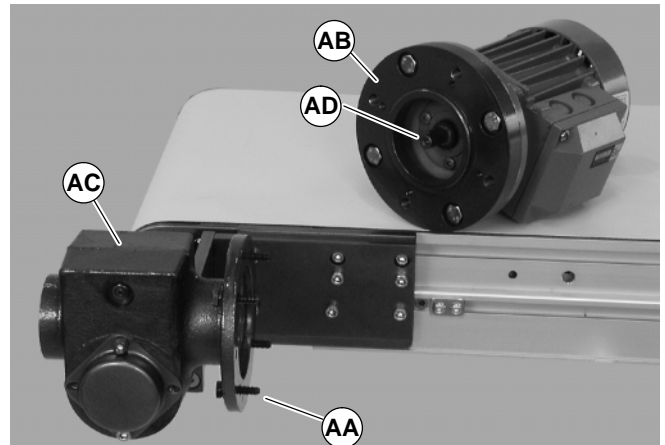

Figure 17
4. Remove four (4) screws (AA of Figure 17). Detach motor (AB) from gear reducer (AC). Retain motor output shaft key (AD).